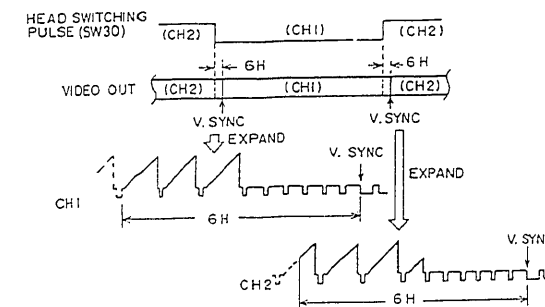

Fig. 4-104
(1) Setting the Head Switching Point (Figs. 4-104, 4-151, 4-152)